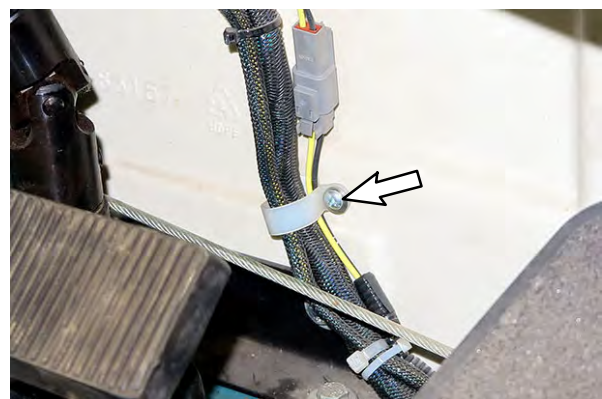

FIG. 7
2. Remove the hardware securing the p-clamp/main wire harness to the front shroud. Set the hardware aside. Leave the p-clamp installed on the main wire harness. (Fig. 7)